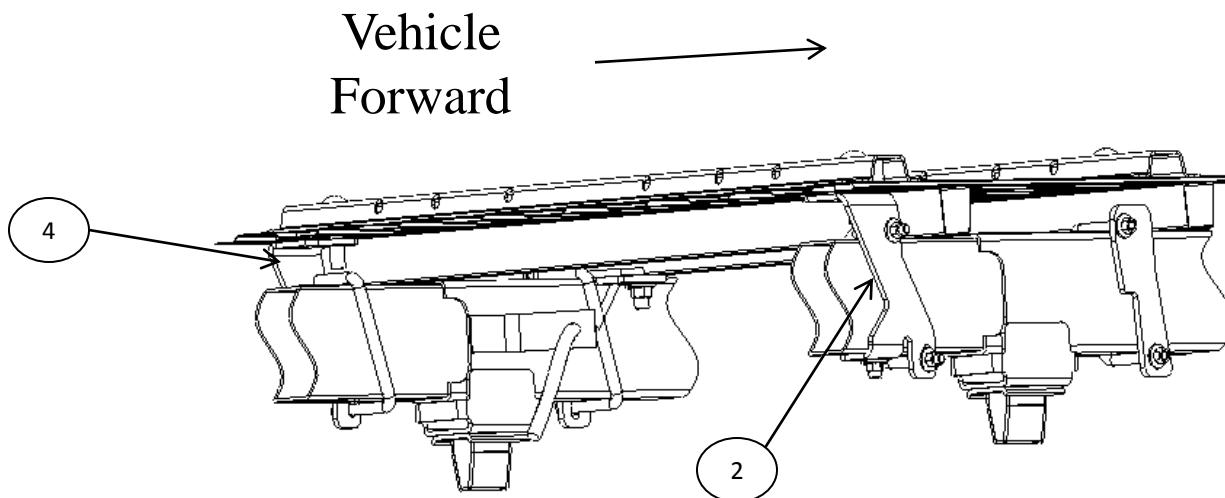
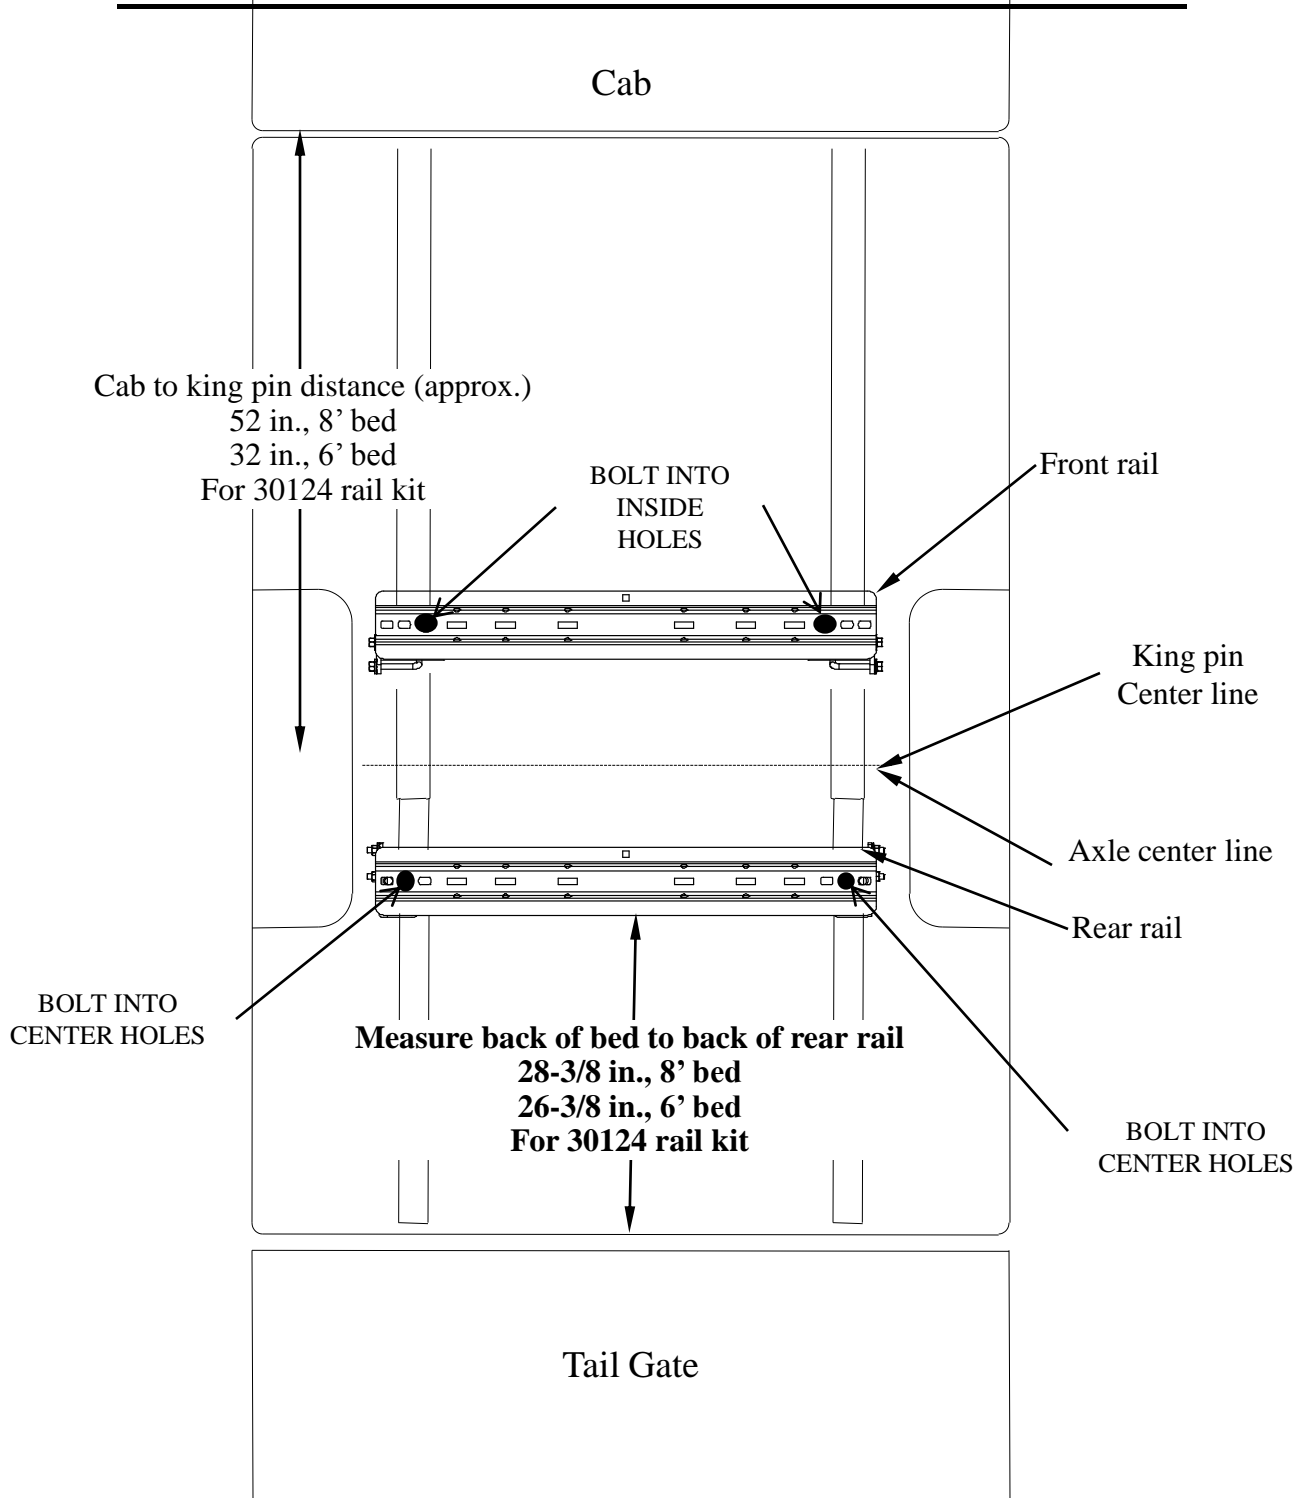

Figure 5A
Figure 6A
17. Install brackets (2) (4) in reverse positions. See Figure 5A.
18. Put rear left hand bracket (2) on the outside of the right frame rail and rear right hand bracket (4) on the outside of the left hand frame rail. See below.
19. Follow steps 1-16. For bed drilling locations see Figure 6A on page 10.